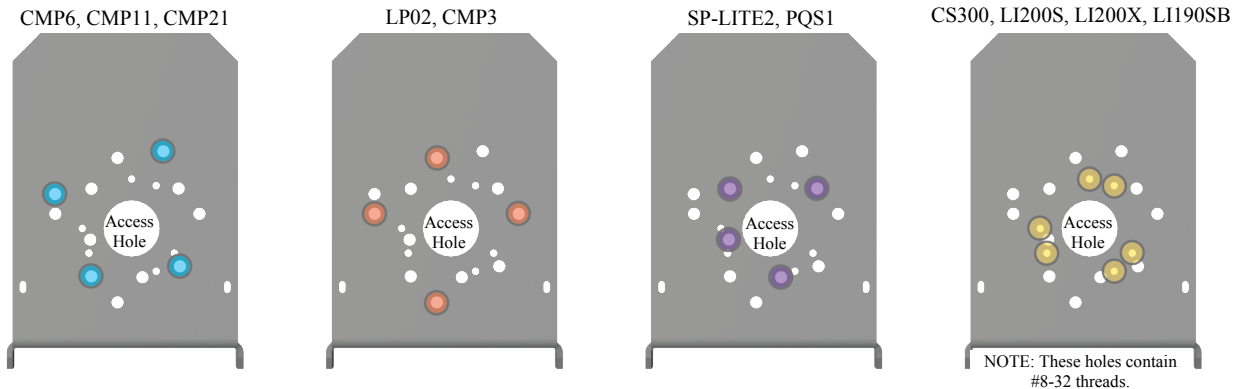

FIGURE 2-1. Mounting hole locations for various pyranometers
2. Secure the pyranometer to the mounting bracket. Refer to FIGURE 2-1 to determine which mounting holes are used by the pyranometer. Visually inspect the leveling feet on the pyranometer (if present) to ensure all feet are in contact with the mounting bracket.